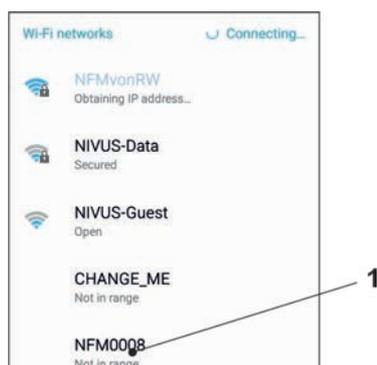

Fig. 26-3 WLAN list
4. In the WLAN list select the NivuFlow Stick (Fig. 26-3 Pos. 1) with the corresponding SSID (delivery status = serial number).